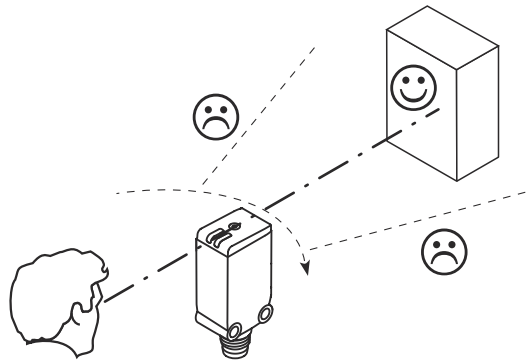

Figure 3: Sensor alignment
3. Align the sensor with the object. Select the position so that the red emitted light beam hits the center of the object. You must ensure that the optical opening (front screen) of the sensor is completely clear. see figure 3, page 28